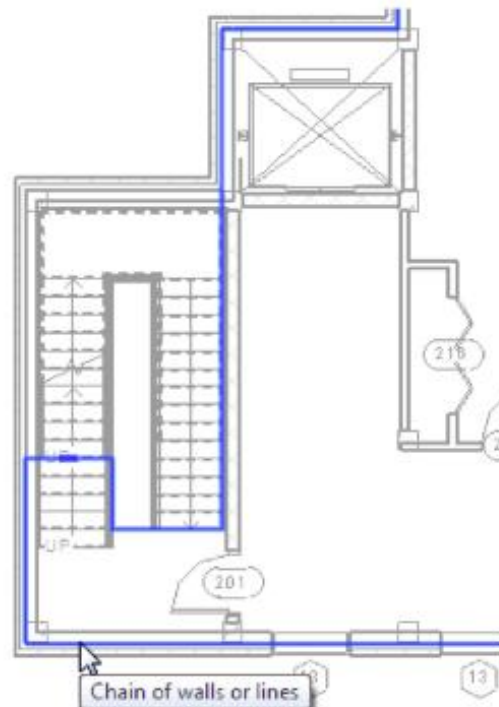

Figure 12–27
4. Modify the boundary line so that it creates an opening for the stairs, as shown in Figure 12–27.